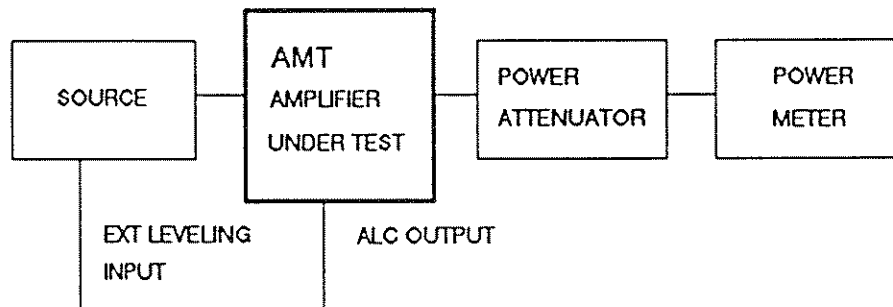

FIGURE 2-3. SETUP FOR INTERNAL DIRECTIONAL FLATNESS
1. Connect the amplifier as shown in Figure 2-3.